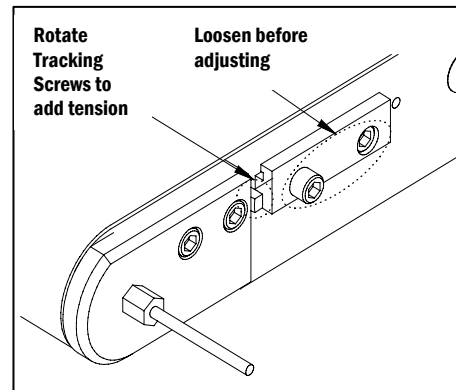

Figure 1
① Add tension to the Belt
a. Loosen all four 5/16" Driver Assembly screws (there are two on each side of the conveyor) one-half turn (**Figure 1**).